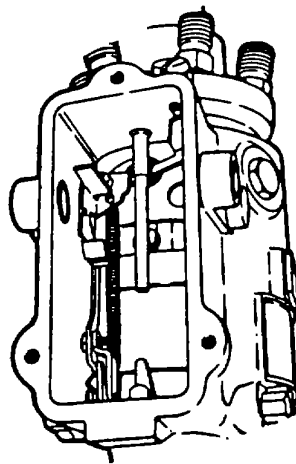

FIGURE 3-99. Installing Governor Linkage
- aw. Pull back governor linkage hook (46, FIGURE 3-64), stretching spring (47) just enough to assemble hook correctly to fork on governor arm (44). Position opposite end of hook (46) over pin on arm of metering valve (45), refer to FIGURE 3-99. Check all governor parts for freedom of movement.